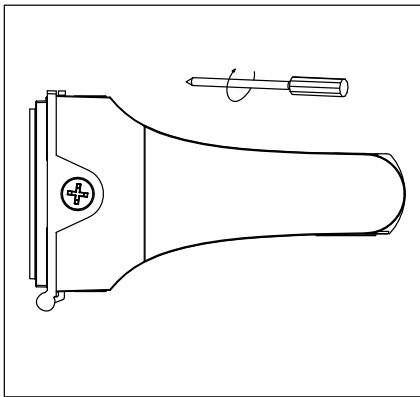

Figure 10
Step 7: Well organize the line and tighten the screws of the lamp base ( (Figure 10 & Figure 11)